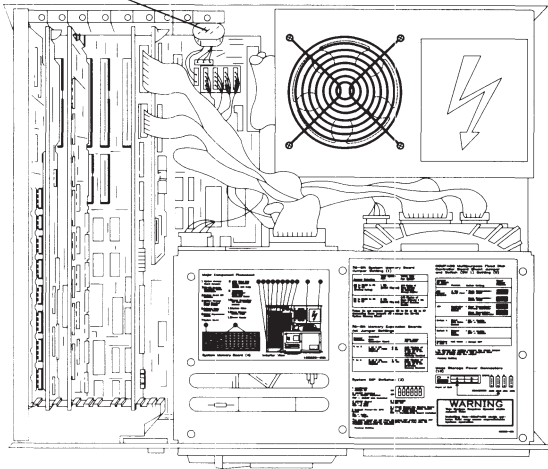

Figure 7-15. Location of the Battery.
2. Locate the battery (Figure 7-15).